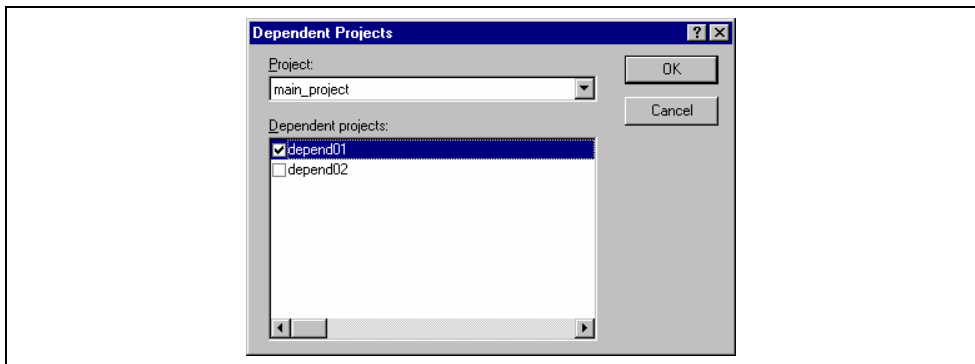

Figure 2.24: Dependent Projects dialog
1. Select **[Project->Dependent Projects]**. The “Dependent Projects” dialog will be displayed.(figure 2.24)